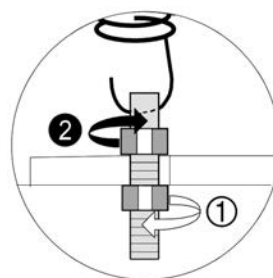

Fig. 65
- perform operations 1 and 2 shown in Fig. 65.